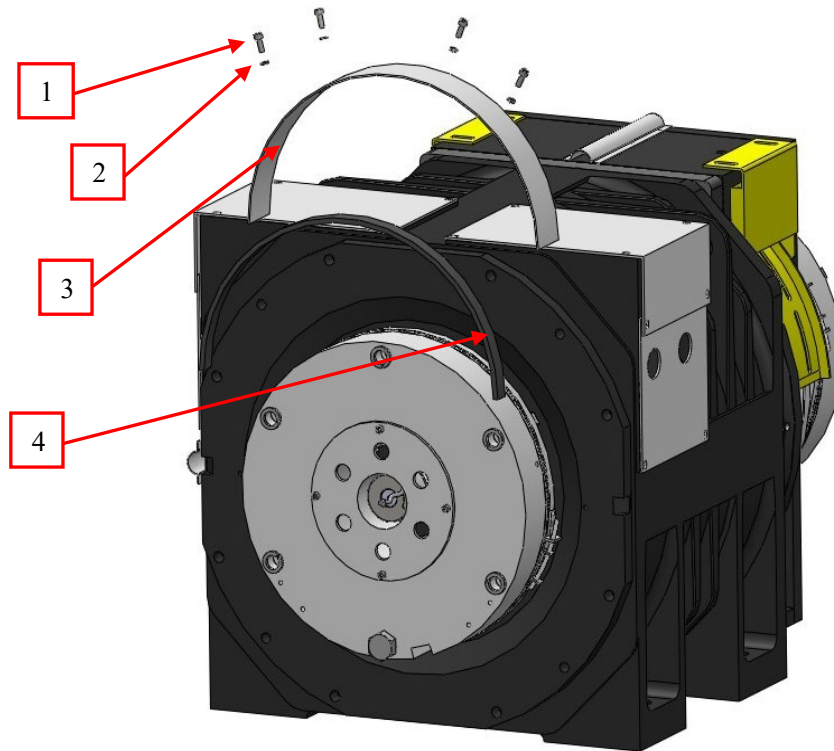

Figure 42 Remove Normal Brake Dust Cover
3. Loosen the 4 screws M6x16 and lock washer 6 (4 pieces) with hex wrench (5mm), and then remove the cover, dustproof ring and nylon ring. See Figure 42 and Table 5.